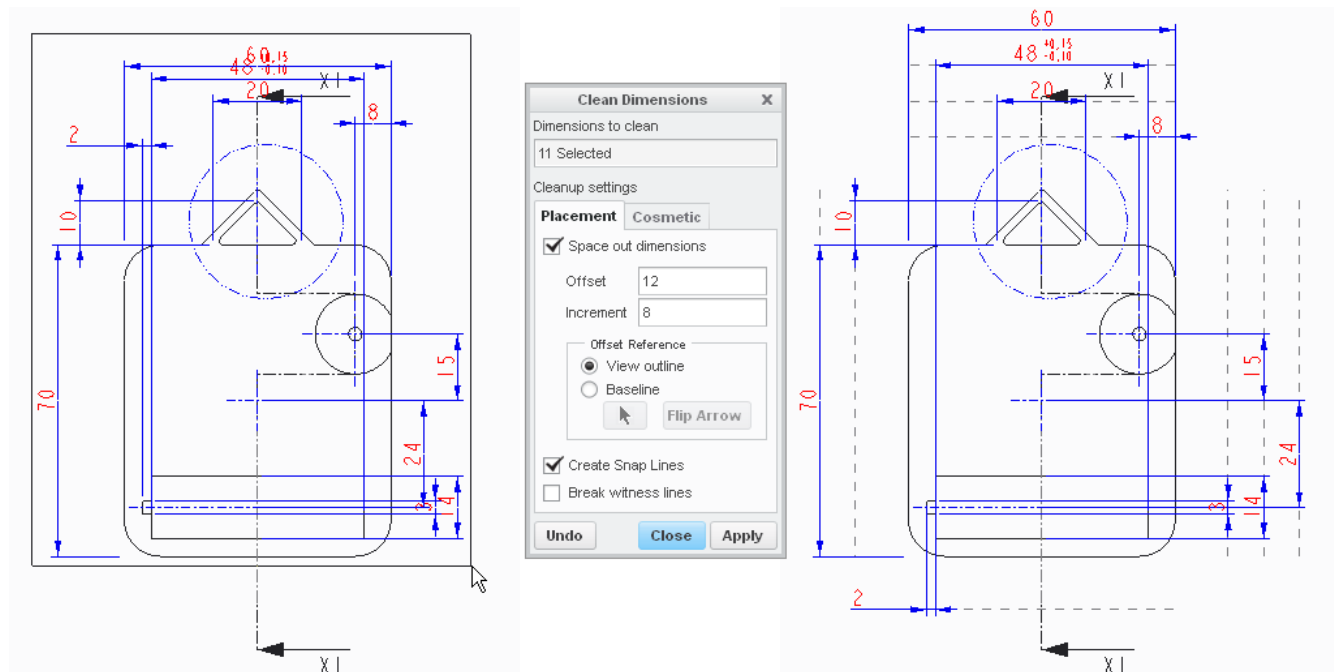

Figure 21: On left: Selecting dimensions. On middle: Cleanup Dimensions window and options. On right: Cleaned dimensions and created Snap Lines.
4. Click **Apply**, change values if needed and select **OK**. Dimensions are cleaned (Figure 21).